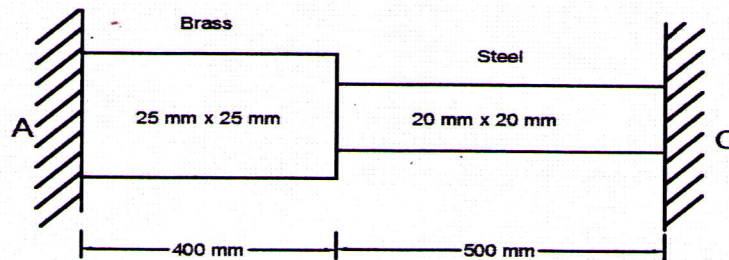

Fig : 1 (10)
1. a) Explain the stress-strain curve of a mild steel bar in tension test. (5)
b) A straight bar 450 mm long is 40 mm in diameter for the first 250 mm length and 20 mm diameter for the remaining length. If the bar is subjected to an axial pull of 15 kN find the maximum and minimum stresses produced in it and the total extension of the bar. Take  $E = 2 \times 10^5 \text{ N/mm}^2$ . (5)
2. A bar made of brass and steel as shown in Fig.1 is held between two rigid supports A and C. Find the stresses in each material if the temperature rises by  $40^\circ\text{C}$ . Take  $E_b = 1 \times 10^5 \text{ N/mm}^2$ ;  $\alpha_b = 19 \times 10^{-6} / ^\circ\text{C}$ ,  $E_s = 2 \times 10^5 \text{ N/mm}^2$ ;  $\alpha_s = 12 \times 10^{-6} / ^\circ\text{C}$